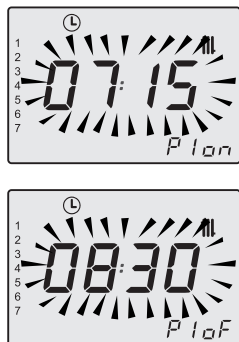

Fig. 2.16
by key 18 and confirm by pressing key 14. Repeat this sequence for P2 on and P2 off, ..., P4 on and P4 off, for every day or group of days selected (Fig. 2.16).